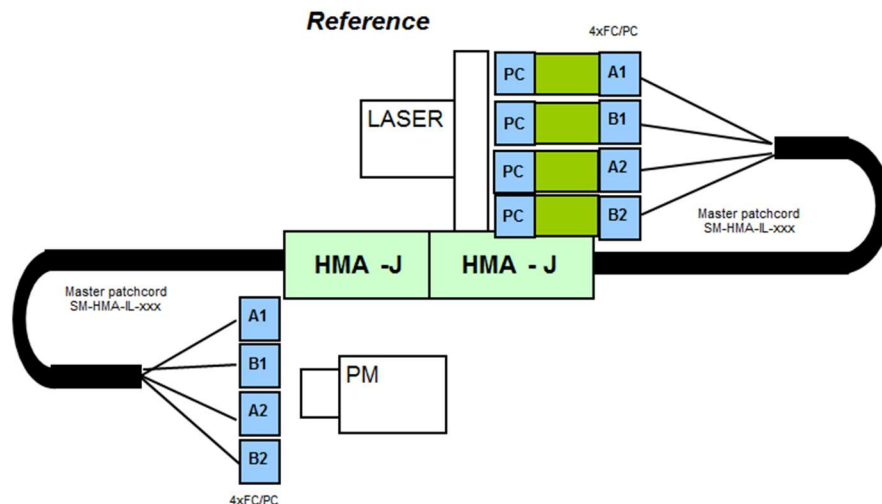

Figure 3: HMA cable reference setting
- Connect two Master cables, Fig. 3